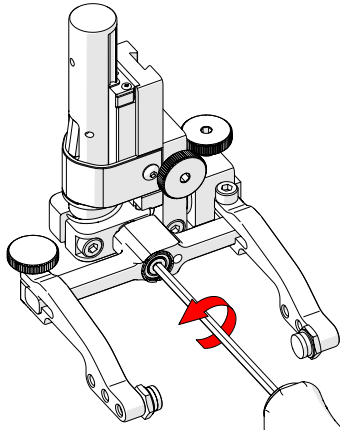

Fig. 48 - Unscrew yoke pivot screw
2. Using the supplied 3 mm hex driver (Fig. 15), unscrew the yoke pivot screw and remove the yoke (Fig. 48).